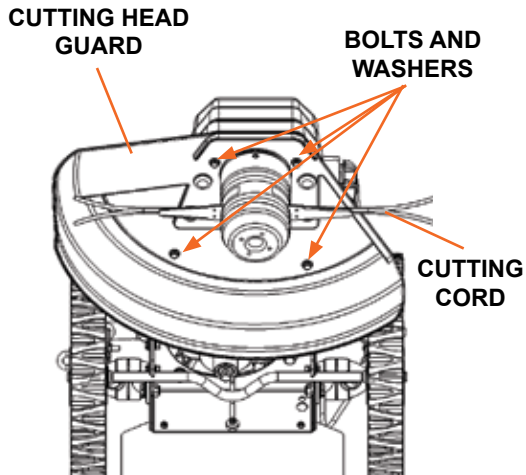

Figure 17
3. Remove the four debris guard bolts and flat washers with a 10mm wrench. Remove the cutting head guard (see Figure 17).